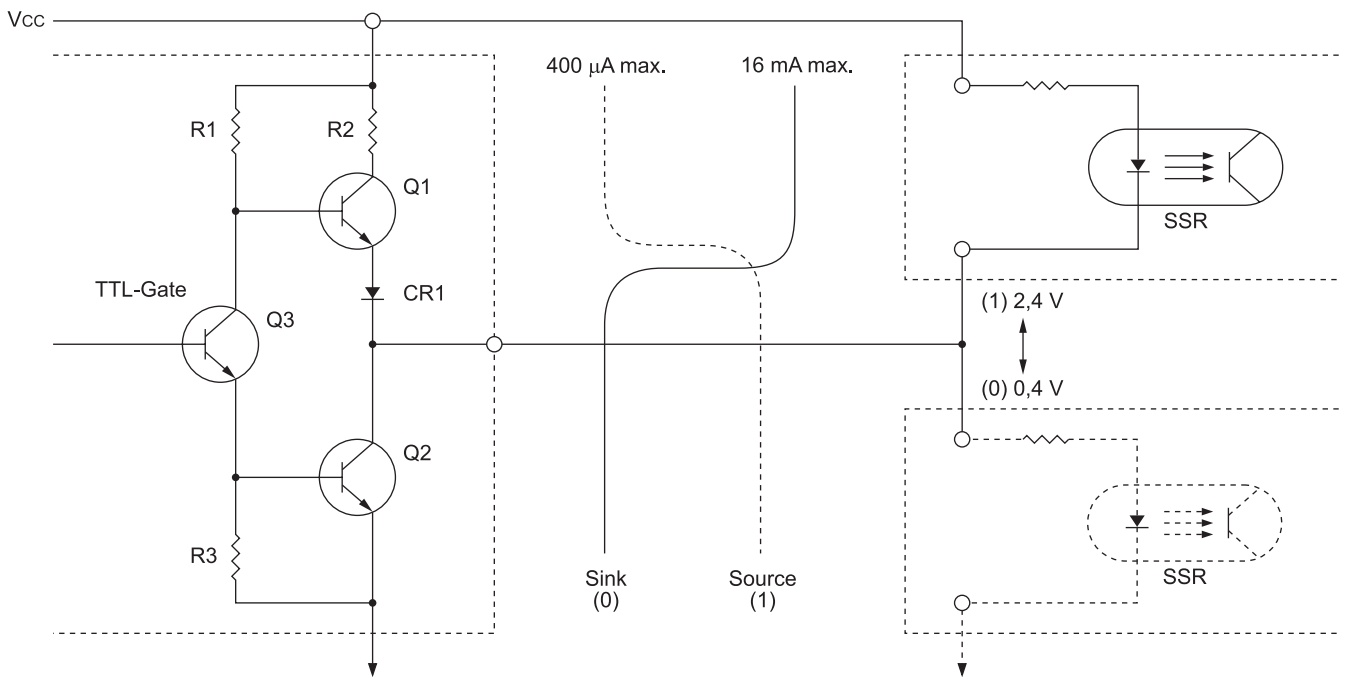

Fig. 6: Typical circuit of a TTL gate driving SSR
The activating signal may be derived from mechanical contacts or solid state devices such as those shown in figure 6. The minimum supply voltage through these contacts may be equal to the SSR turn-on voltage (3 volts dc typical), whereas the positively or negatively referenced transistors require a minimum supply voltage a few tenths of a volt above the specified turn-on threshold, say 3.5 volts
The relationship of the TTL gate to an SSR is illustrated schematically in Fig. 6. In this configuration the SSR supply voltage and the gate Vcc should be common and comply with the TTL specified limits of say 5 volts +/- 10%. It can be seen that with a positively referenced SSR and the gate at logical (0), Q2 is operating much like a discrete NPN transistor in the grounded-emitter saturated state. In this mode the gate can
It should be noted that the 2.4 volt gate output in the logical 1 state relates only to a negatively referenced load. It does not represent a voltage source to a positively referenced load (SSR), where it would appear to be greater than the off state voltage. Referring again to Fig. 6, Q2 would be off and CR1 is reverse biased, thus presenting essentially an open circuit with virtually zero potential across the SSR.
The off state leakage current in the driving semiconductors shown in Figs. 6 to 8 is significant, just a few microamperes, which could not possibly turn on the SSRs. However, the off state (output leakage current of any packaged solid state driving device (e.g. temperature controller, etc.) should first be checked for compatibility with the SSR.